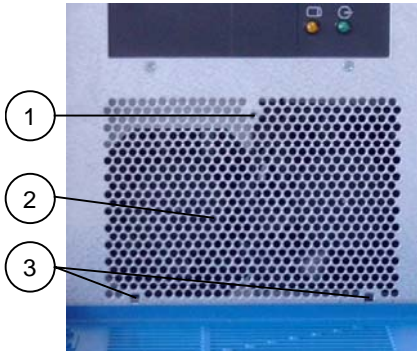
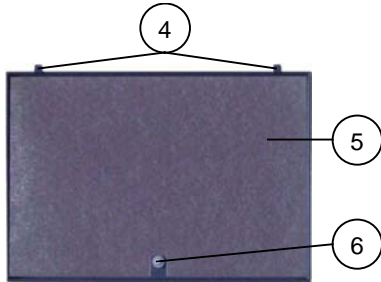

Fig. 26: Location for filter mat holder
Fig. 26a: Filter mat holder with filter mat
6. After cleaning and drying the filter mat, replace it into the filter mat holder, Replace the filter mat holder to the front side of the chassis (see fig. 26, pos. 3 and fig. 26a, pos. 4).
Legend for figures: 26, 26a and 26b: